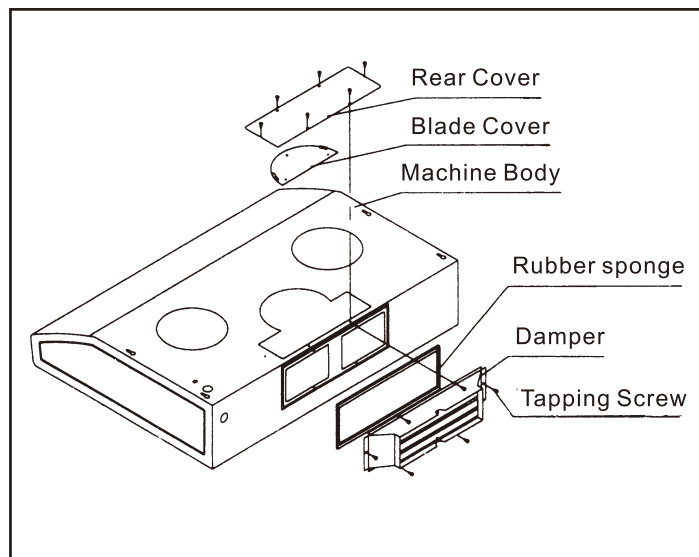

Fig.5
b) Put on the rectangular damper and screw it onto the back with 5/16" L X 5/32" D screws (Fig.5)